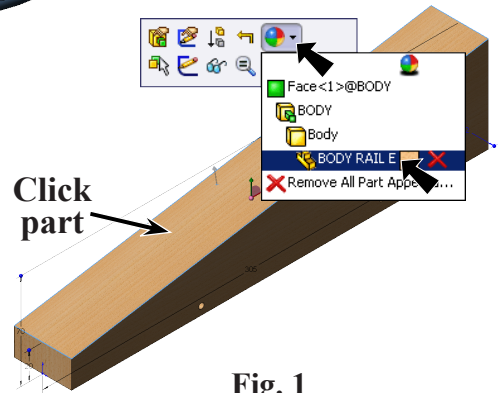

Fig. 1
- Step 1. Click the Body to select the part, click **Appearances Callout**  on the Content menu and click **BODY RAIL E** , Fig. 1.